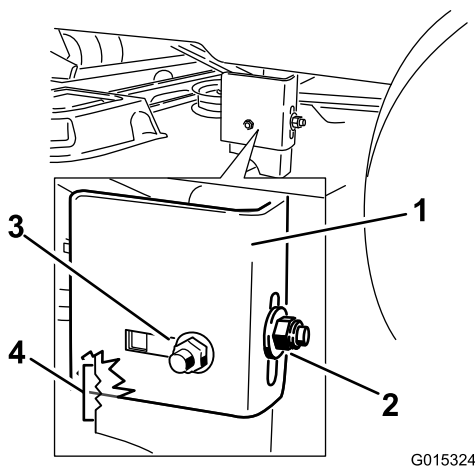

Figure 50
- Loosen the rear locking nut on the hanger bracket just enough to allow the hanger to be adjusted (Figure 50).
- Stop the deck at the adjusted position and tighten the rear locking nut on the hanger bracket to hold the new position (Figure 50). Tighten the side locking nut on the hanger bracket.